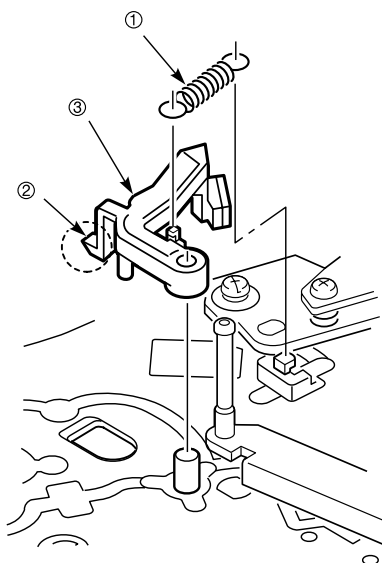

Fig. 8.40
- Remove the spring of the capstan brake ① (30900) (Fig. 8.40).
- Press back the clamp ② and take out the capstan brake ③ (30800).
- When refitting the brake, make sure that the clamp ② is freely hooked into the chassis.